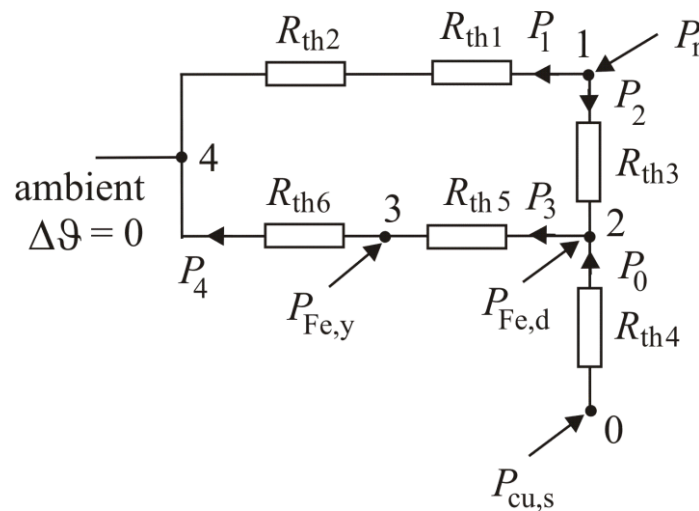

Fig. 20: Losses and heat sources plot
A totally enclosed, fan cooled, cage induction motor has the following losses and thermal resistances according to Fig. 20:
- 4) Determine the heat flow P_1, P_2, P_3, P_4 ! ³ Give the power flow as a graph like in Fig. 20.